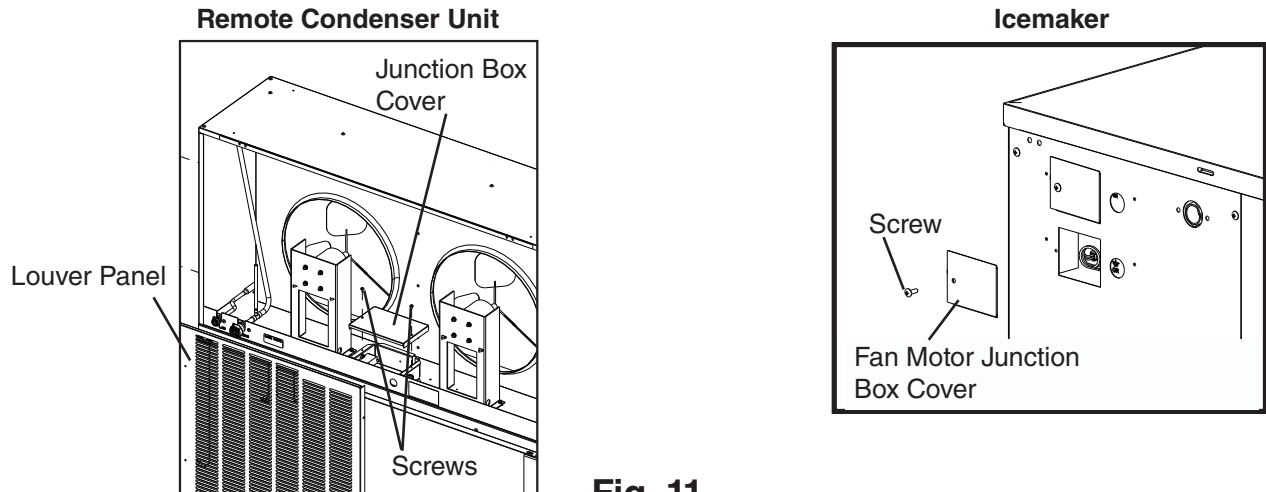

Fig. 11
- 1) Remove the louver panel. See Fig. 11.